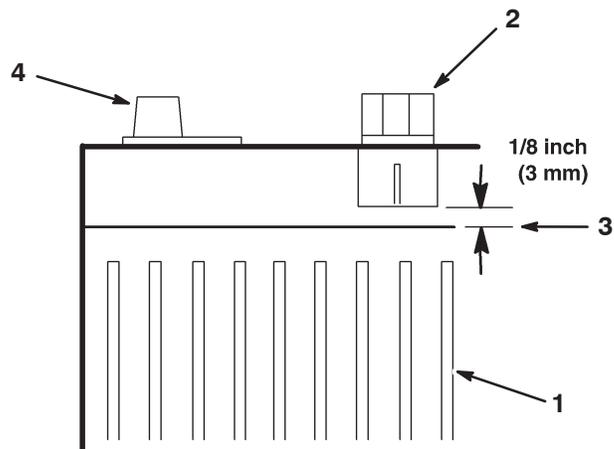

Figure 31
7. Add just enough distilled water to bring the electrolyte level to 1/8 inch (3 mm) below the bottom of each fill well (Fig. 31).